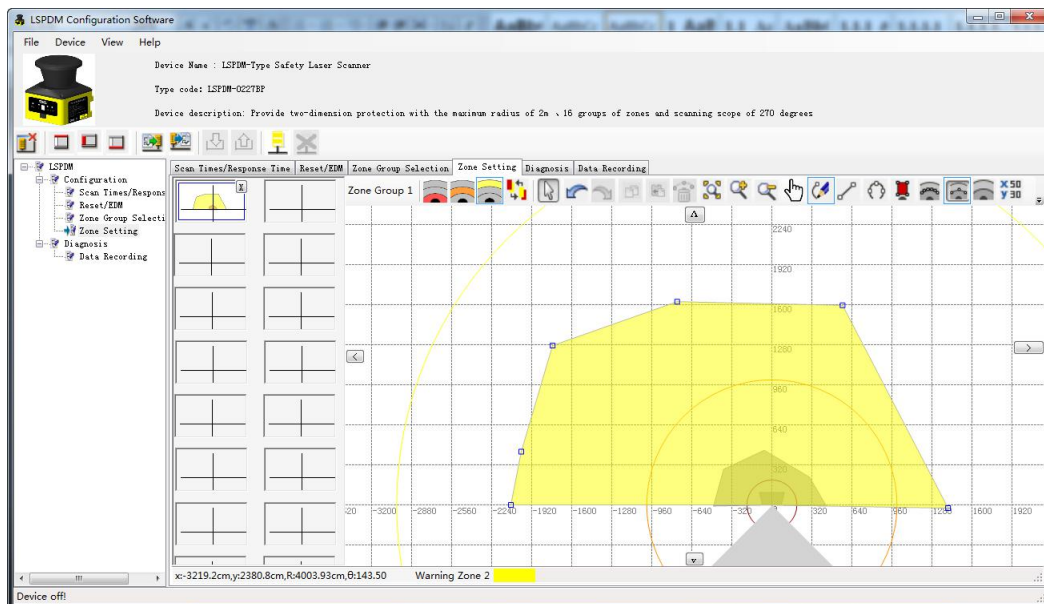

Fig.3.2.4 Draw warning area 2
Step③: Warning zone 2 configuration. Click the icon  or  to switch to warning zone 2 configuration and complete boundary configuration. Fig.3.2.4 shows the user-defined irregular warning zone 2 boundary.